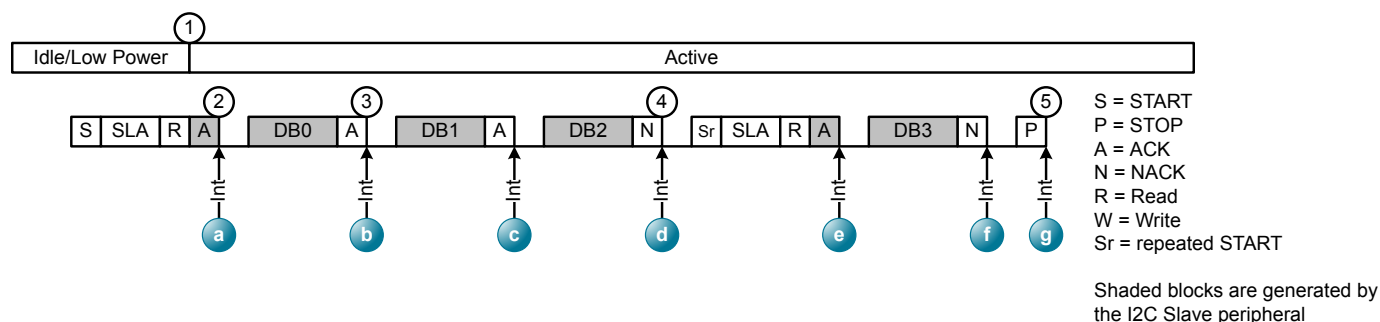
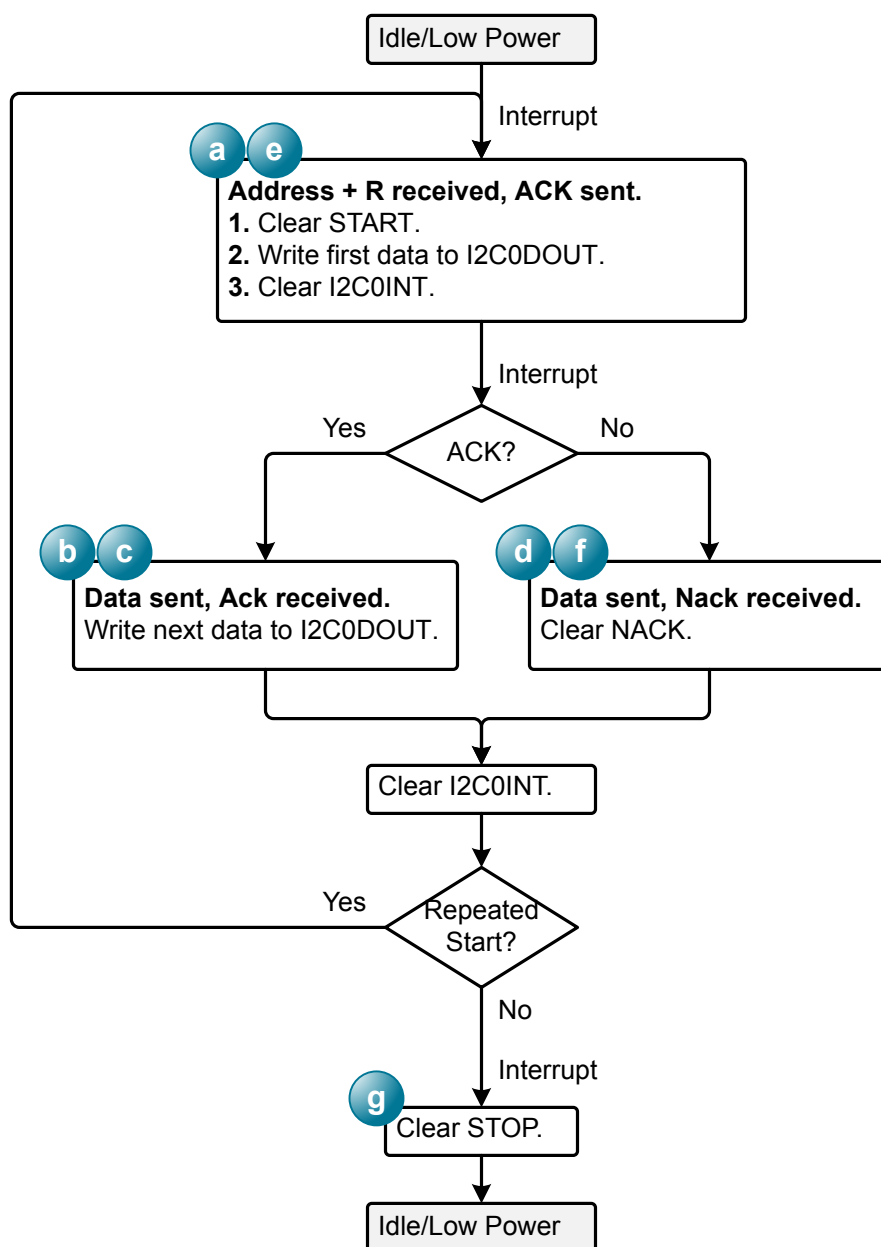

Figure 17.7. Example I2C Read Sequence with the I2C Slave Peripheral
Figure 17.8. I2C Read Flow Diagram with the I2C Slave Peripheral
2. An interrupt occurs after the automatic ACK of the address. The I2C peripheral holds the SCL line low for clock stretching until firmware clears I2C0INT. Firmware should read the data from the master and take the actions indicated by Figure 17.8 I2C Read Flow Diagram with the I2C Slave Peripheral on page 242.
Figure 17.7 Example I2C Read Sequence with the I2C Slave Peripheral on page 241 demonstrates an example sequence, including a repeated start, and Figure 17.8 I2C Read Flow Diagram with the I2C Slave Peripheral on page 242 describes the I2C Read sequence and firmware actions in each interrupt.